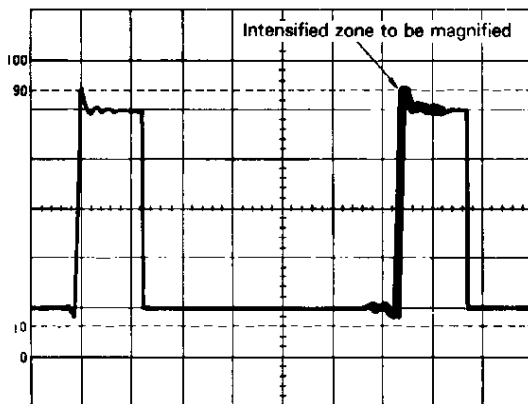

Fig. 11
2. Set the B sweep in the **STARTS AFTER DELAY** mode. Set the **HORIZ DISPLAY** to the INT mode and the B sweep will appear as an intensified portion of the A sweep. The length of the intensified portion is adjusted by the **B SWEEP TIME/DIV** control. (Fig. 11).